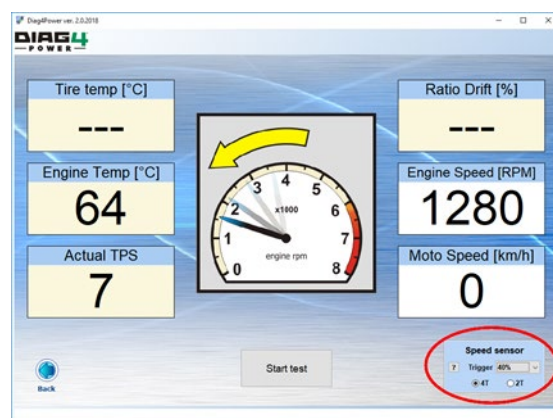

Fig. 24 – 2T/4T setting
- If the measured speeds are twice the actual engine speed, change settings 4T to 2T and vice versa (see Fig. 24).